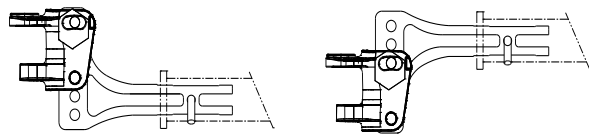

Fig. 2
4. Attach hitch ball to the ballmount (G). REESE standard height hitch balls with 1-1/4" shanks are supplied with lock washers and nuts (If you must use a 1" shank ball, use bushing 58109 (B) to reduce hole size in ballmount (G) to 1"). Always use a lock washer and place washer next to nut. Unless otherwise specified by ball manufacturer torque ball nut to 450 ft/lbs for 1-1/4" nut, 250 ft/lbs for 1" nut.
5. Some installations may require a longer hitch bar (D). Extended bumper guards, pickup truck "caps", or rear mounted spare tires can limit turn angles unless a longer bar is used. Individual hitch bars (D) are available in various sizes.
6. Insert the hitch bar (D) into the hitch box and install a pull pin. Place ballmount (G) onto hitch bar and move up or down for proper height. Hitch bar may be used in either the up or down position (see Fig. 2).